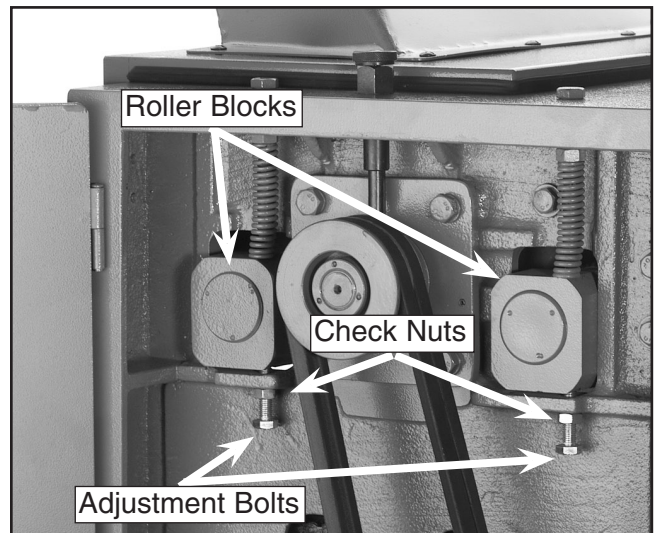

Figure 16. Left side roller controls.
6. Open the left cabinet door. Loosen the check nuts shown in **Figure 16**, and turn the adjustment bolts to raise each block up approximately $\frac{1}{2}$ " (enough to be above the horizontal plane of bottom dead center of the cutterhead knife/insert).